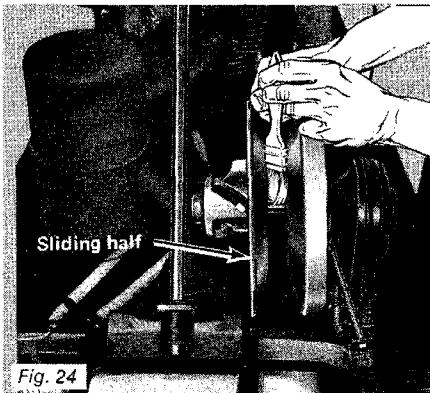

Fig. 24
2. Thoroughly clean the driven pulley shaft. Apply a light coat of Ski-Doo\* clutch lube on shaft (See Fig. 24).